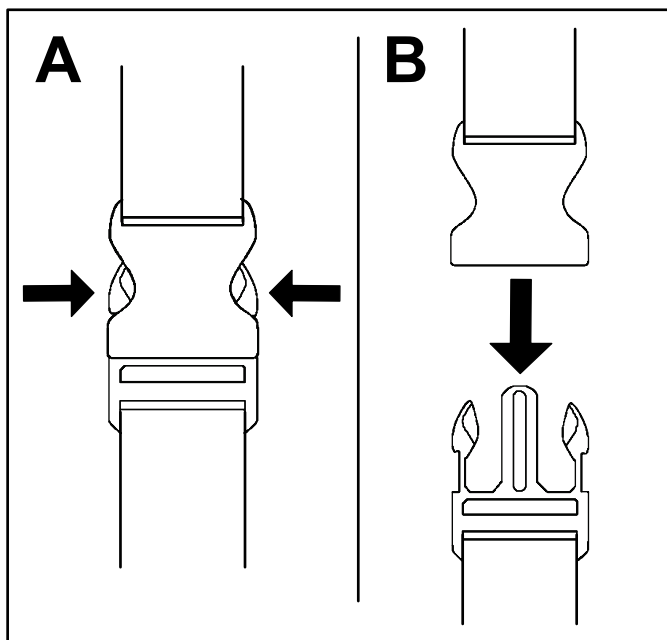

Figure 13
1. Press in on the sides of the buckle (A of Figure 13).
2. Allow the buckle to disconnect (B of Figure 13).